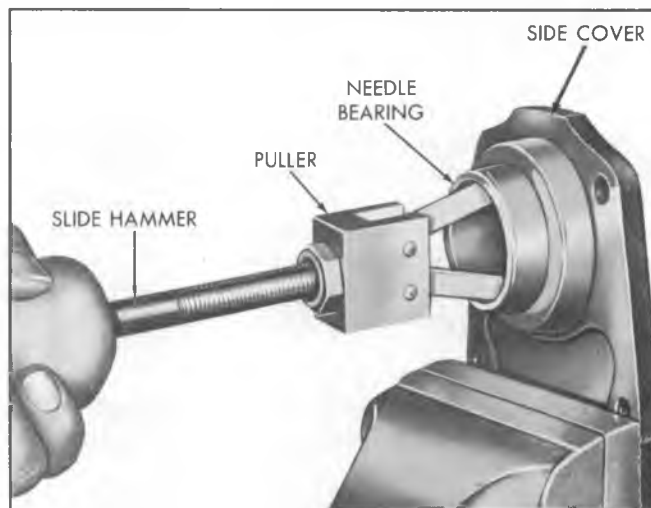

Fig. 7--Removing Side Cover Needle Bearing
1. Pull the needle bearing from the side cover using Puller Tool J-5829 and Slide Hammer J-2619 (fig. 7).